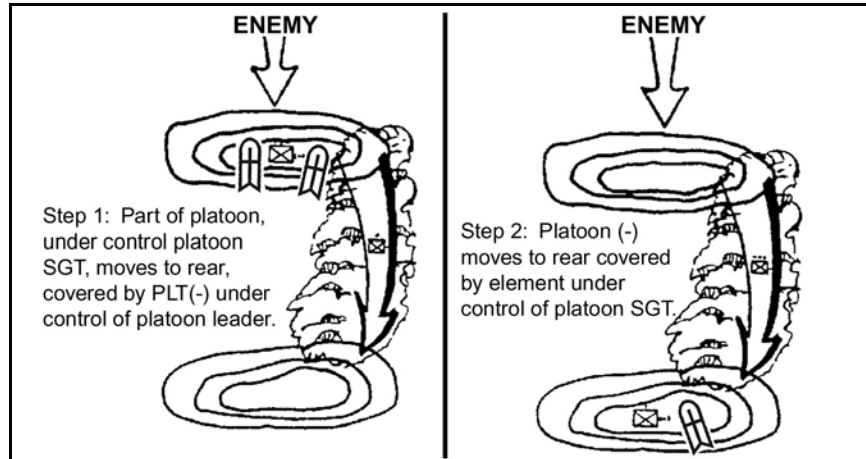

Figure 4-6. Withdrawal under enemy pressure.
(1) **Withdrawal Under Enemy Pressure.** Enemy pressure makes withdrawing more difficult than it would be otherwise (Figure 4-6). The platoon must employ fire and maneuver to fight its way away from the enemy. To ensure continuous antiarmor coverage, both covering and maneuvering elements must have Javelins.